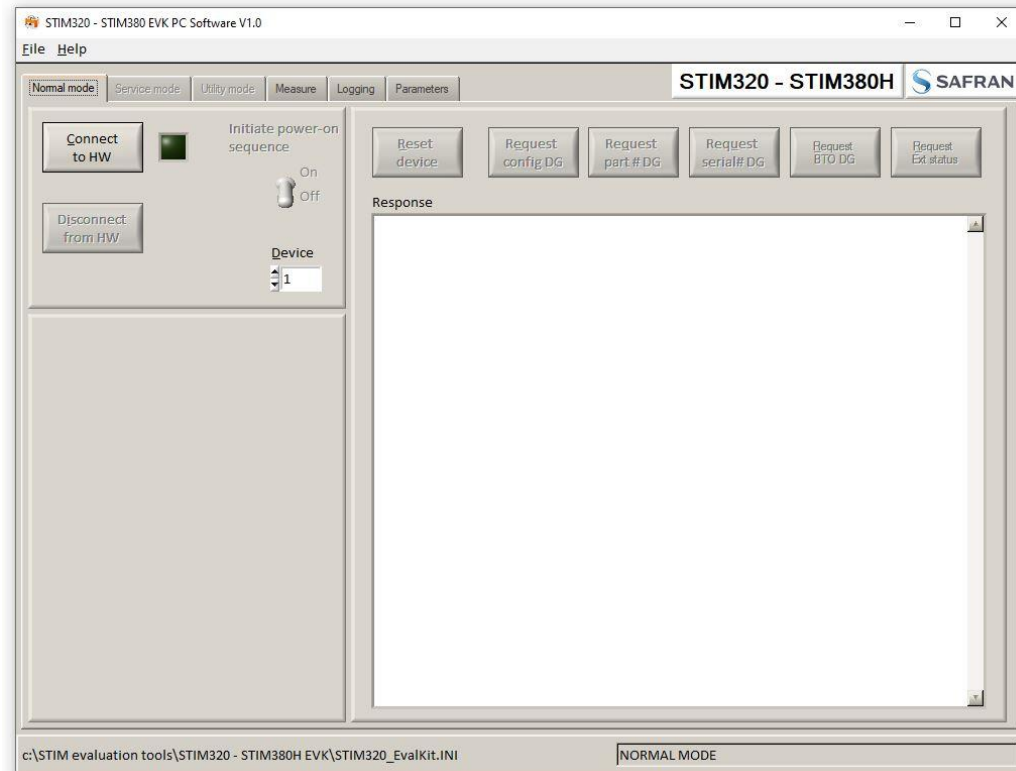

Figure 17: Normal mode panel after selecting INI-file
10. A green LED (Data arriving from device n) indicates that data is received from the IMU(s). Verify the communication to module by clicking on the 'Request serial# DG' button. An example of such a result is shown in Figure 17. The system is now ready for use.